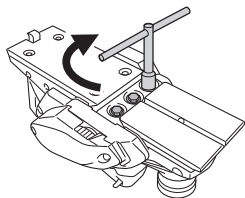

Fig. 18
- (3) As shown in Fig. 18, fix the bolts at the blade holder after blade replacement has been completed.